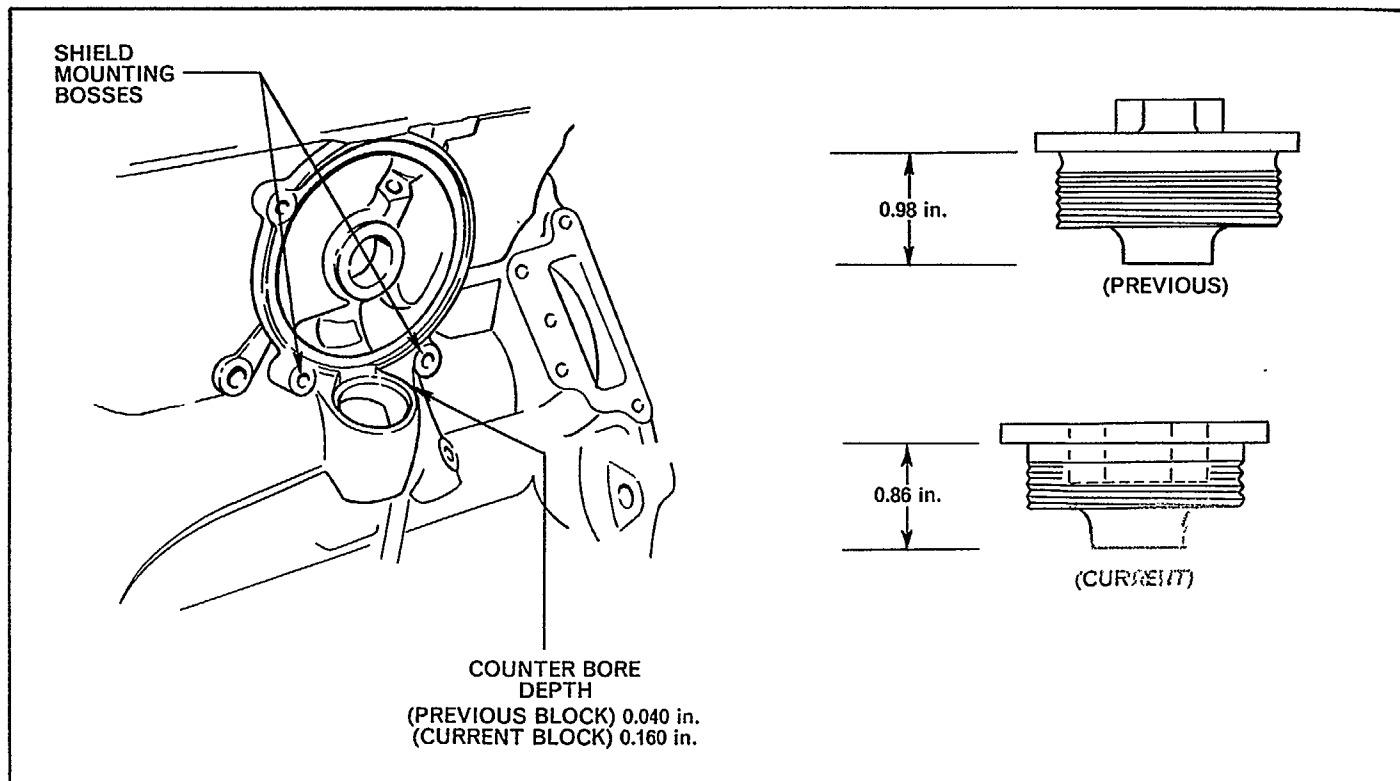

Figure 42A
4. The addition of the drain shield has resulted in an increase in the depth of the oil pump gear stop sealing surface, Figure 42A. Because of this change, a current shorter Oil Pump Stop must be used with the current block. If the previous longer stop is used with the current block, interference will exist between the stop and the oil pump drive gear. Such interference will cause oil pump failure.